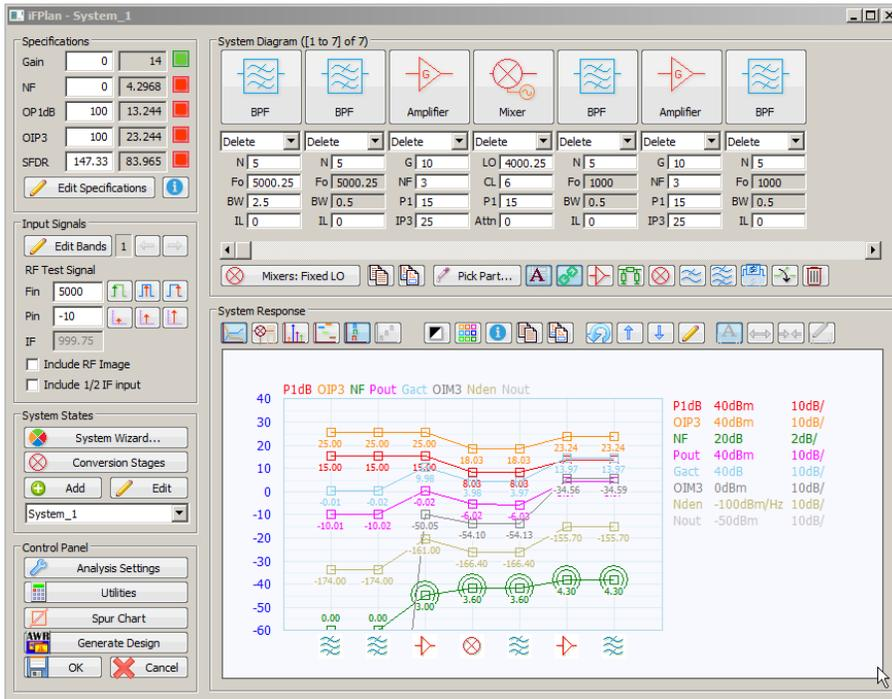

Figure 1: RFP interface showing system response and measurements.
More than a spreadsheet, RFP delves deeper than common spreadsheet analysis calculations and displays clear results with several options when viewing simulations. For example, a tabular result of in-band and out-of-band signals can be generated in real time as a frequency of interest is swept. In addition to showing the particular power levels and frequencies of the signals, the root causes of the signals can also be displayed. In addition, mixer spur charts and traditional spectrum plots can be viewed. Furthermore, RFP gives engineers the first cut of cascaded measurements such as noise figure (NF), gain compression (P1dB), signal-to-noise-ratio (SNR) and third-order intermodulation (IM3), as well as spurious free dynamic range (Figure 1).